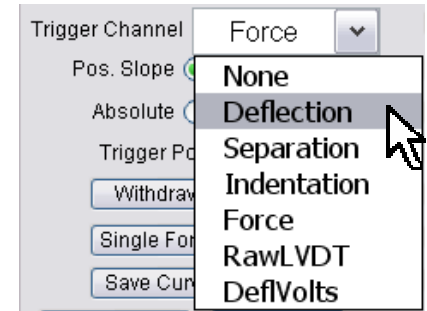

Figure 11.2.7.1: Selecting a trigger channel.
Figure 11.2.7.2: Relative vs. Absolute trigger: A) 5 nm relative trigger (notice 5nm deflection on Y axis); B) 5 nm Absolute trigger with -0.88V deflection which adds an additional 47.74 nm of deflection to trigger point (InvOLS was 54.27nm/V for this AC160 Si lever), giving about 52nm of deflection before trigger.
• Figure 11.2.7.2 shows the difference between Relative trigger and Absolute: In panel A), a 5nm relative deflection trigger was acquired, while panel B) shows a ~53 nm Absolute trigger because the Deflection voltage was -0.88V- which converts to an additional 47.74 nm (InvOLS = 54.27nm/V for that lever). Both example curves were collected with Deflection as the trigger channel.